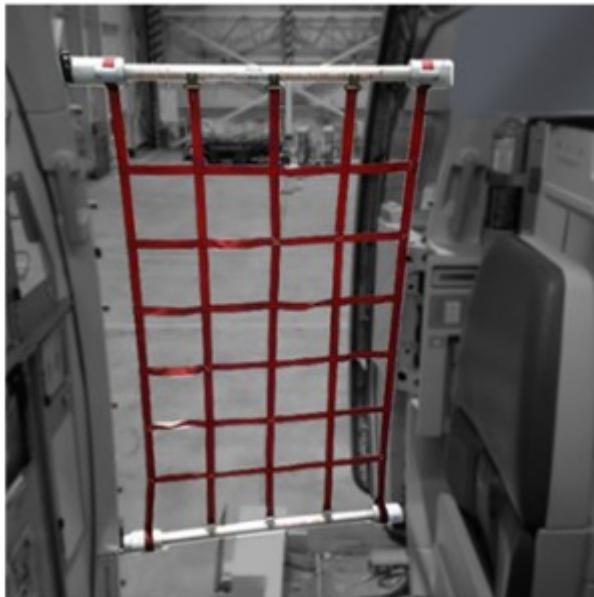

Figure 4.4.2.1—Fall Prevention Device
1. An appropriate fall prevention device consists of equipment or material, or a combination of both, that is designed to stop or prevent the fall of a person from an open door (e.g., an industrial safety net, catch platform or safety harness system) see Figure 4.4.2.1.